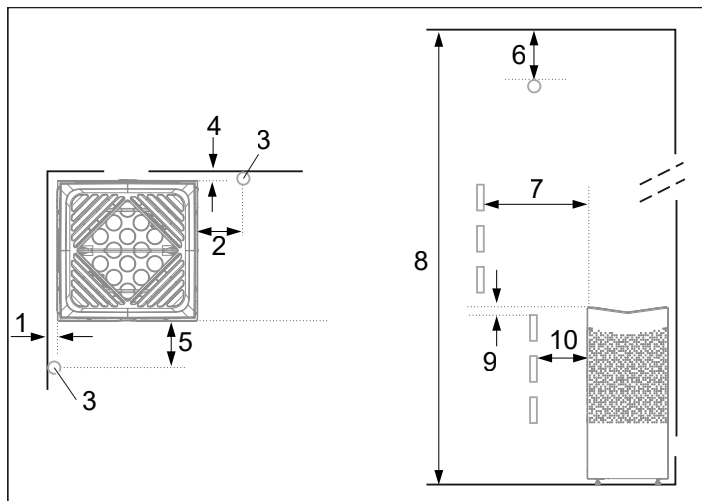
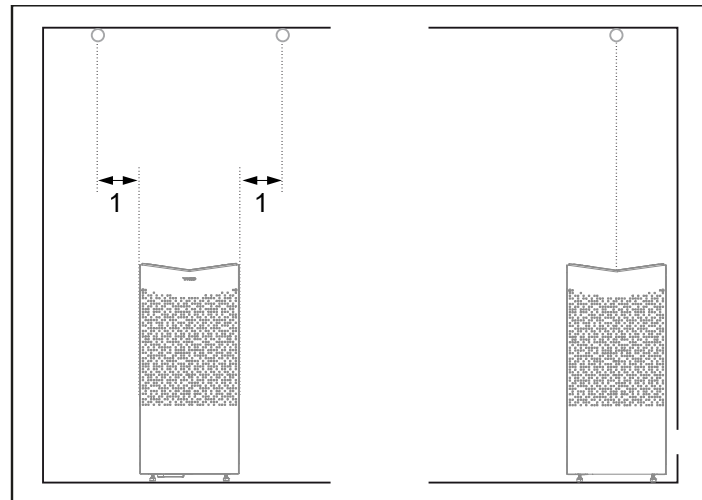

Figure 3: Positioning the heater - normal installation
Figure 4: Sensor installation on ceiling
- Plan the sauna heater positioning (see the Heater positioning - normal installation section, Figure 3).
- Plan the sensor positioning (see Figure 3 and Figure 4).
- Position the heater at a safe distance from the floor, side walls and interior fittings (see Figure 3).
Position the sensor according to the picture (see Figure 3).
If the wall on which the sensor is to be installed is made of highly heat-absorbing material (e.g. concrete, brick, etc.), or of hardened glass, the sensor may be installed in the ceiling at a distance from the heater, according to Figure 4.